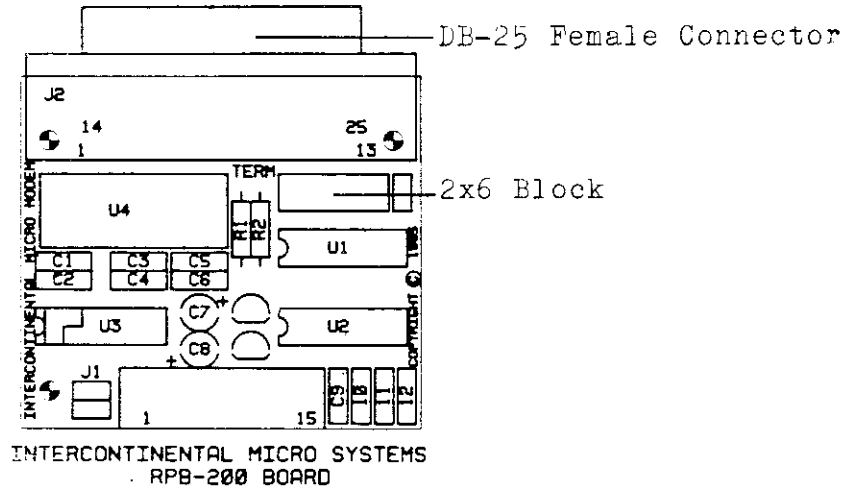

FIGURE 1.7
4. If you want to enable the signal on pin 20 DTR for handshaking, move the jumper from the second to the third position on the 2x6 block. Figure 1.7 illustrates the location of the 2x6 block on the personality board.